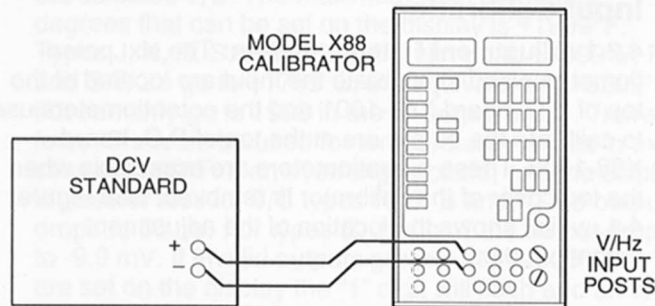

Figure 4-2: X88 Calibrator and Dc Voltage Connection.
- a) Connect the X88 Calibrator and the dc voltage standard as shown in Figure 4-2.
- a) Use the test configuration shown in Figure 4-2. Select the T/C type to be measured as indicated on the Model X88's front panel.